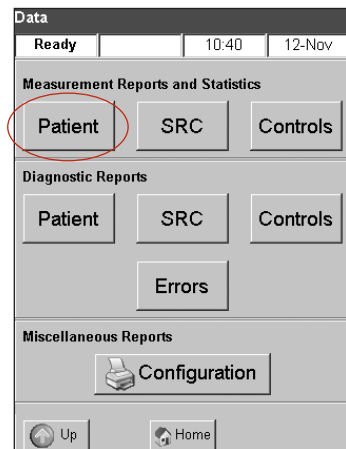

Figure J-5: Data screen > Patient button
2. In the Measurement Reports and Statistics section, tap **Patient** (Figure J-5).